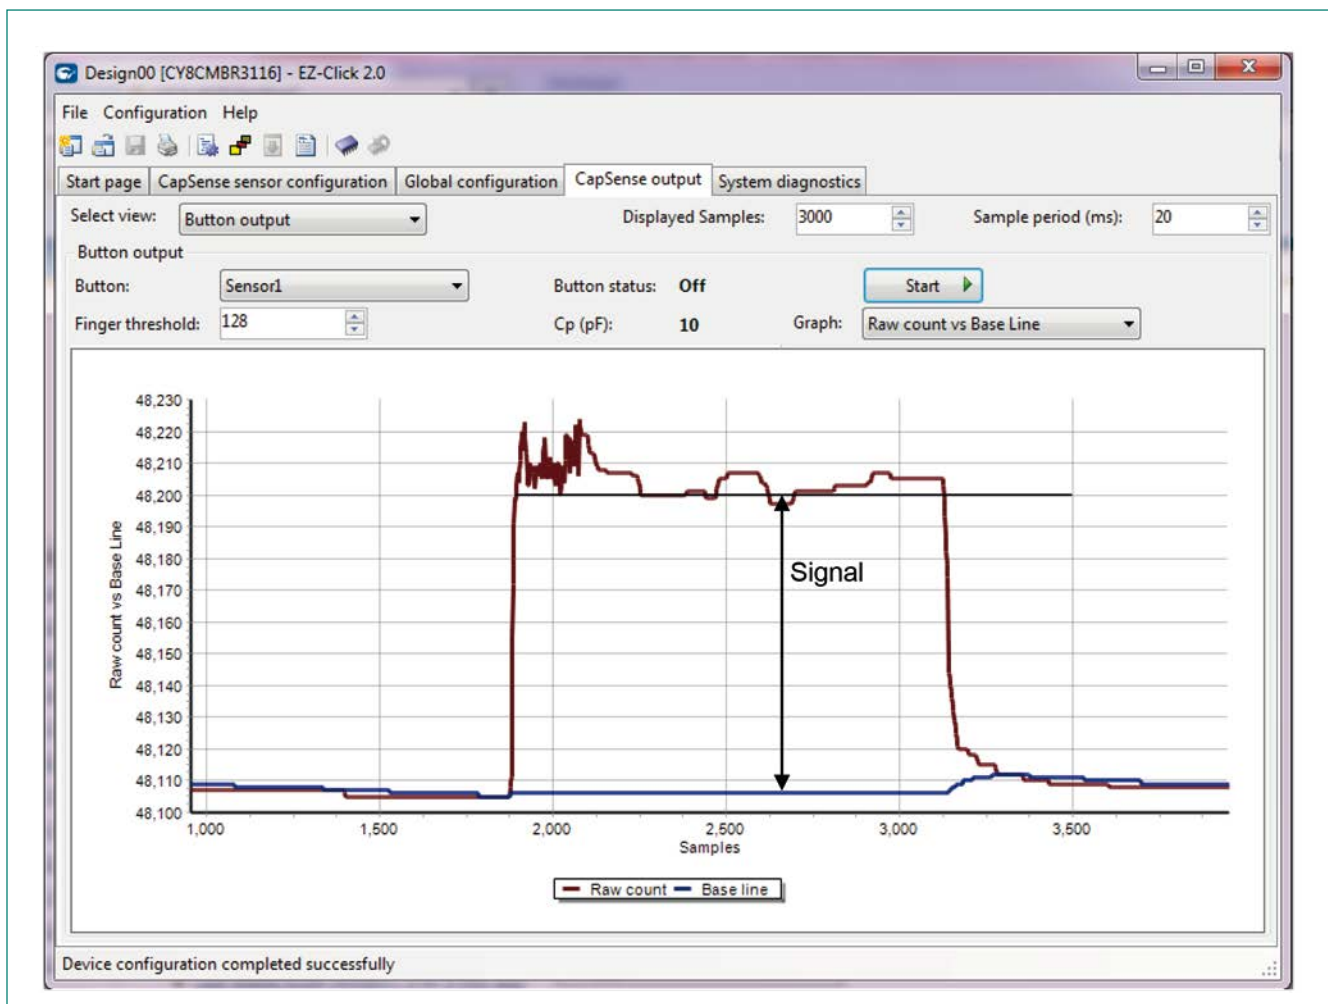

Figure 6-9 Measuring Proximity Sensor Signal
8. Place the hand at the required proximity distance and measure the signal, as Figure 6-9 shows.